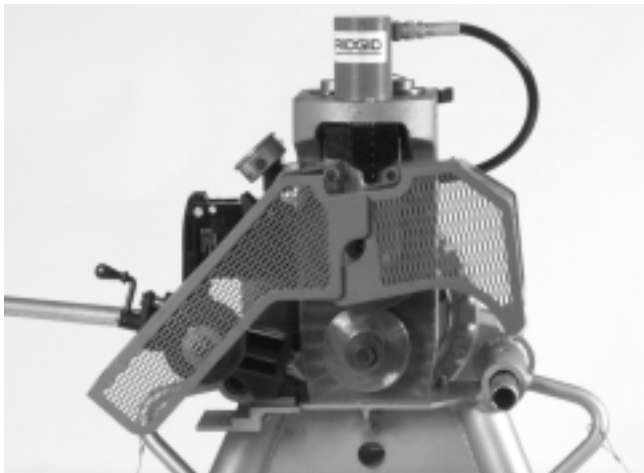

Figure 13 – Guards in Open Position
1. Before placing the pipe into the groove rolls, check that the upper grooving roll is fully retracted by rotating the pump release lever counter-clockwise. The guards should be in the open position as shown in (Figure 13).